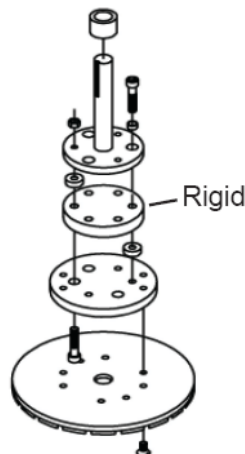

Figure 9
- Each new machine is shipped with a RIGID HEAD (FLEX HEAD OPTIONAL) 10”/255 mm factory balanced disk. It is important to maintain the coupling to which the disk is attached. A worn coupling, damaged bearings or a bent shaft will cause the grinding discs to wear unevenly. (*Figure 9 rigid head assembly & 9A flex head assembly.*) It is important to note FLEX HEAD for smooth flat surfaces, RIGID HEAD for buckled, bumpy or rough surfaces.